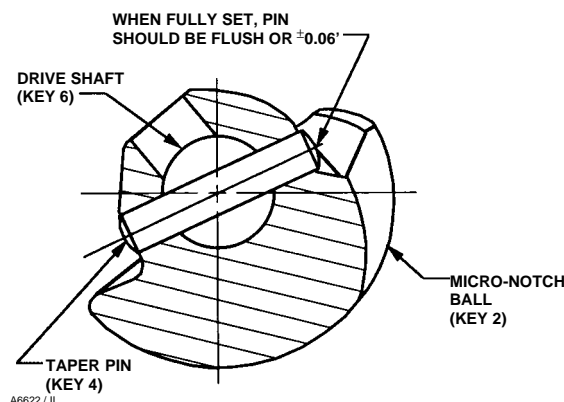

Figure 14. Taper Pin Installation for Design V150, V200, and V300 Size 1-Inch Valves with Micro-Notch Ball Construction
2. **Metal Micro-Notch ball constructions:** A taper pin (key 4, figure 16) is used in the 1-, 1-1/2, and 2-inch size valves. And, a taper pin (figure 14) is used in the 1-inch valve size.
5. Unscrew the pipe plug (key 25). (With newer valve constructions, the pipe plug is optional and may not be available.)
6. Locate the small end of the taper pin (key 4, see figure 14 or 16) or taper key (key 4, see figure 18). Using a pin punch on the smaller end of the taper pin or key, drive it out of the V-notch ball (key 2) and drive shaft (key 6). Note: driving the taper pin or taper key in the wrong direction will tighten it.
per pin must be inserted into the larger hole side of the ball ear (or ball, for Micro-Notch constructions), and into the large hole side of the drive shaft (see figure 14 or 16).
1. Hold the thrust washer (key 38) in place, insert the drive shaft into the valve body bearing (key 10), and into the V-notch ball ear (or ball, for Micro-Notch constructions). Align the hole in the drive shaft with the holes in the V-notch ball.
2. Insert the taper pin into the V-notch ball and drive shaft as shown in figure 14 and 16.